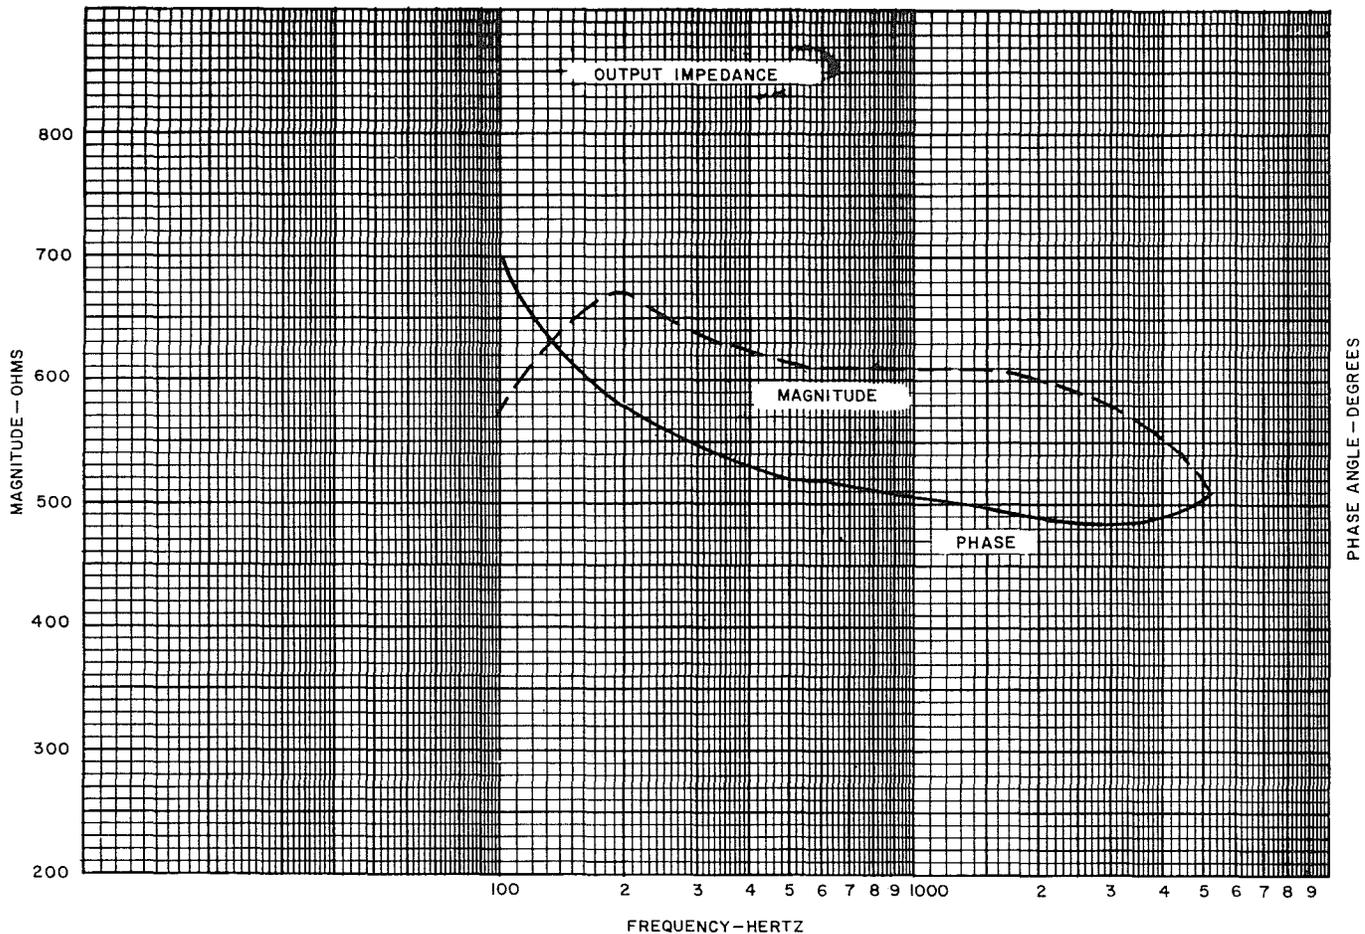

Fig. 2—Output Impedance
3.02 The input and output impedances of the V3 repeater are nominally 600 ohms varying somewhat with the frequency. (See Fig. 2 and 3.)